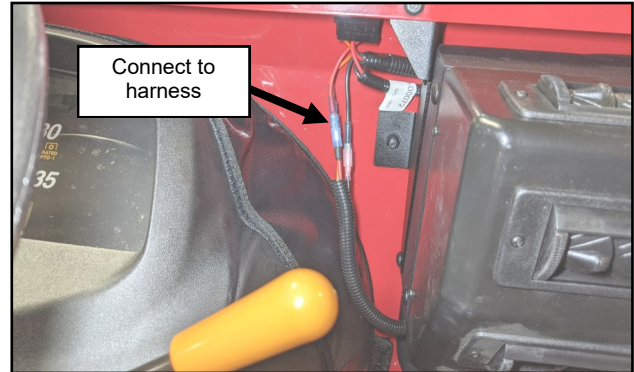

Fig. 17.3 (Connect Heater Leads to Wiring Harness)
- 17.3 Connect the heater leads to the wiring harness. See Figure 17.3.